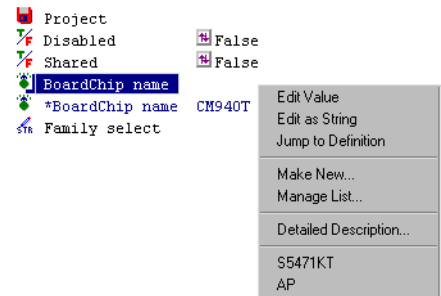

Figure 3-10 Linking a second board
6. Right-click on the BoardChip_name that does not have an asterisk to see the context menu, shown in Figure 3-10.
If you want to reorder the boards in the BoardChip_name list to give the settings a different priority, select the context menu as described above and click on **Manage List...**, shown in Figure 3-10. Use the Settings: List Manager dialog box to reorder the board groups.
3. Right-click on the BoardChip_name. A context menu is displayed, shown in Figure 3-10 on page 3-15.
7. Right-click on the BoardChip_name that does not have an asterisk to see the context menu, shown in Figure 3-10 on page 3-15.